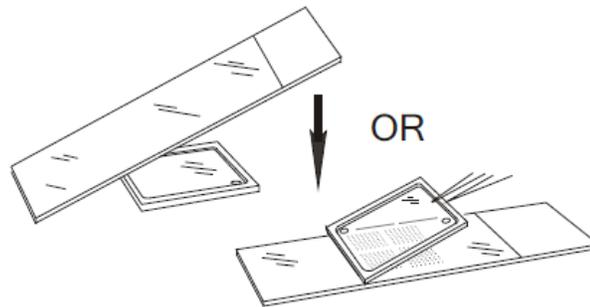

Figure 2
3. Press a glass slide onto the gasket, aligning the sample area with the gasket interior as shown in Figure 2. If your application requires that the SecureSeal be removed from the glass, use a glass slide instead of glass coverslips (SecureSeals cannot be removed from glass coverslips).